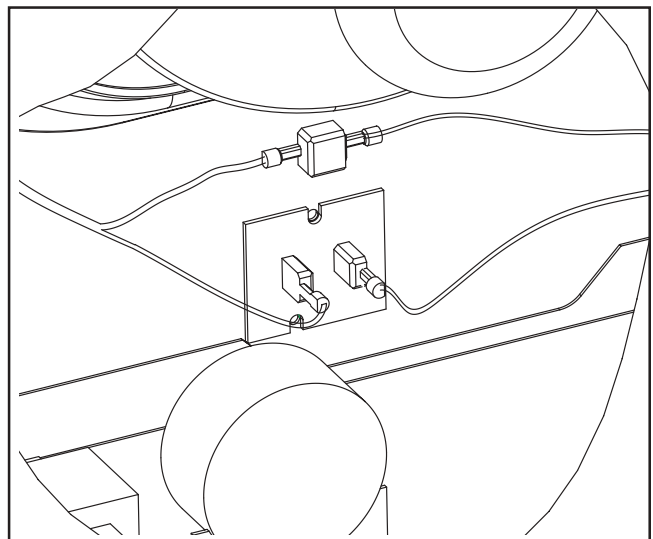

Figure 5.
7. Remove the insulated wire from the Main Air switch and connect it to the chimney kit wire harness lead. (See Figure 5)